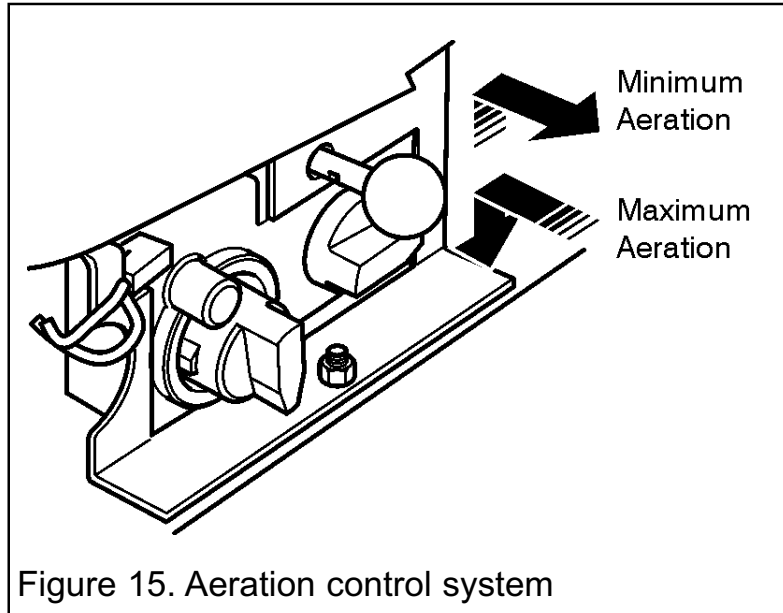

Figure 15. Aeration control system
1. Allow the appliance to warm up, (for at least fifteen minutes) in the fully aerated position, with the control lever pushed in to the locked position (See figure 15).